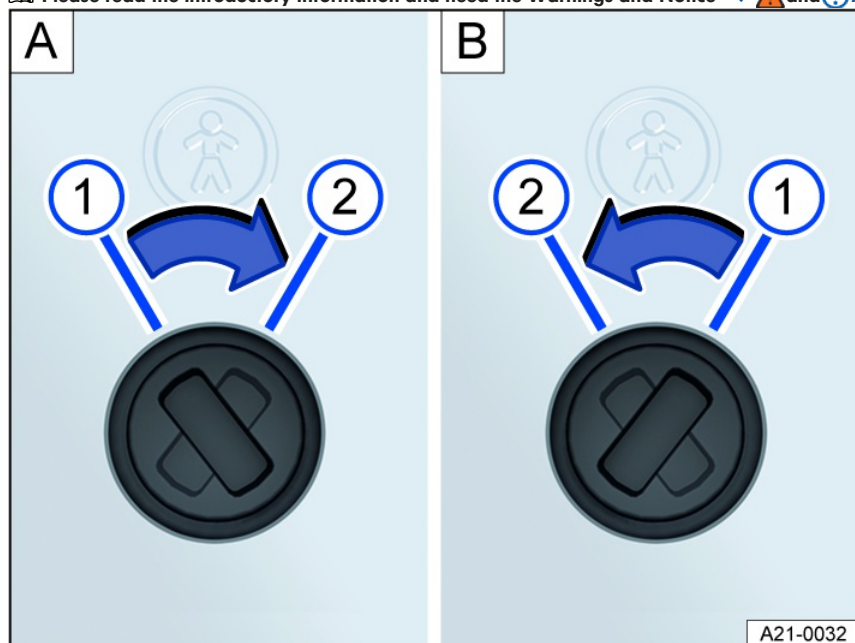

Fig. 63 Child safety lock: **A** left rear door, **B** right rear door.
2. Bring the slot into the corresponding position *fig. 63*.